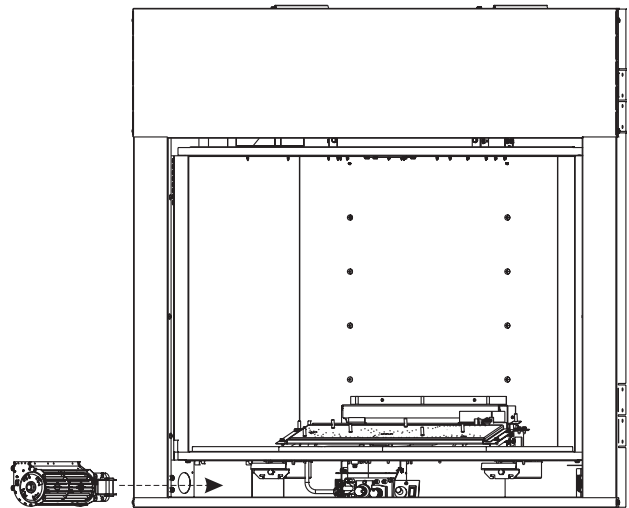

Figure 20
4. Install blower through bottom opening. **See Figure 20.**